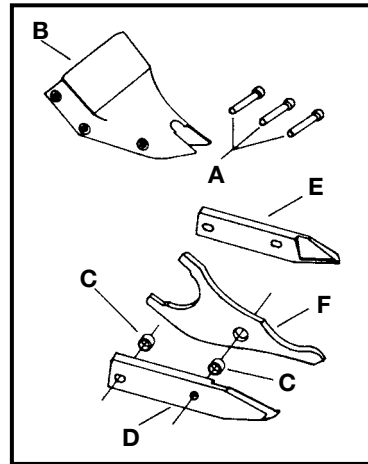

Fig. 3
1. Remove the shear head from the motor unit. Loosen three cap screws (A) Fig. 3 and pull the cutter head forward (a light twisting motion may be helpful) to separate it from motor unit.
2. Remove the three cap screws (A) from the shear housing. Retain the spacer bushing (C) with the middle cap screw).
3. Remove the center blade by gently tapping it rearward. Retain the spacer bushing (C) removed from the hole in the center blade).
4. The side knives (D) and (E) will drop out of the shear housing.